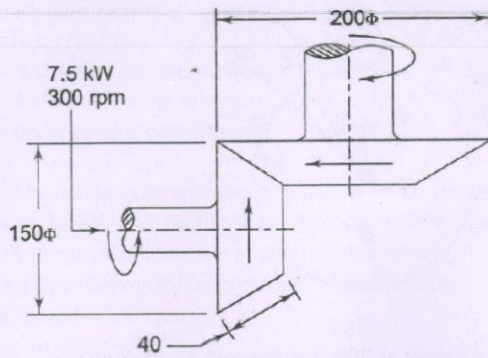

Fig. 2
- (c)** A pair of bevel gear transmitting 7.5 kW at 300 rpm is shown in Fig 2. The pressure angle is 20° . Determine the components of the resultant gear tooth force and also draw the FBD diagram of the forces acting on the pinion and gear. [06] 3,4,5